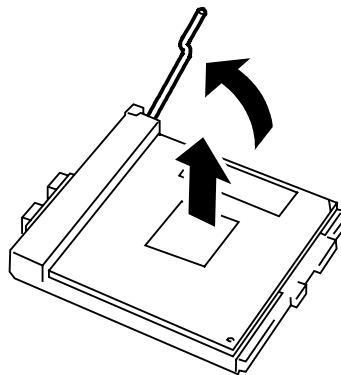

Figure 4-17. Removing the Processor
6. Swing its processor socket lever up until it is in the unlocked position and carefully remove the processor. See Figure 4-17.